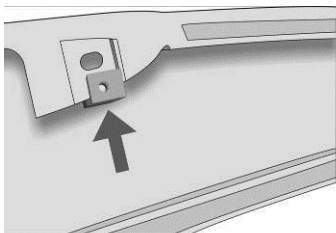

Figure 5.
- After painting, and prior to final installation, slide Nylon J – Clips into outer flanges, as shown in Figures 5 and 6, ensuring that the boss is facing up.